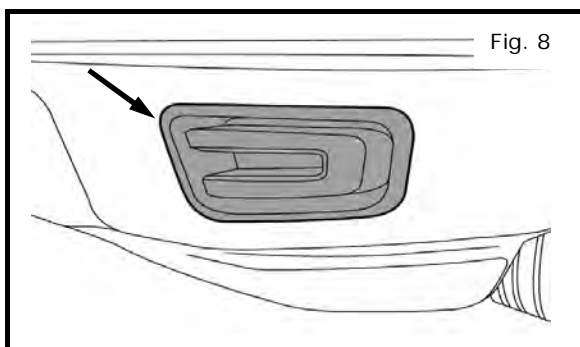

Fig. 8
- a) Carefully pry at corner of LH side fascia finisher cover with trim tool to release retaining tabs on inside of fascia as shown in Fig. 8.